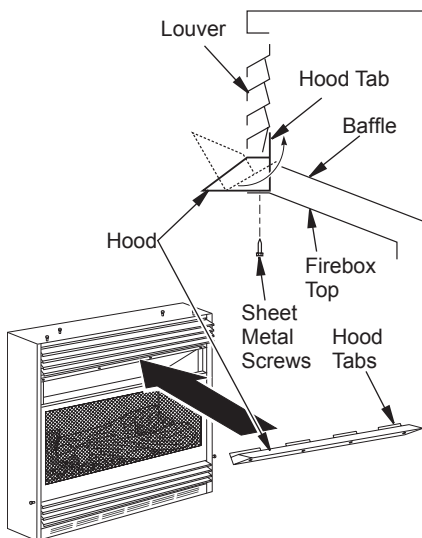

Figure 4 - Assembling Hood
2. Rotate hood as shown in Figure 4. Make sure hood tabs point toward fireplace.
3. Insert tabs between baffle and louvers (see Figure 4).
4. Gently rotate hood to upright position. Make sure hood tabs are behind louvers and hood is resting on firebox top (see Figure 4).
6. Insert screws as shown in Figure 4. Tighten screws firmly.